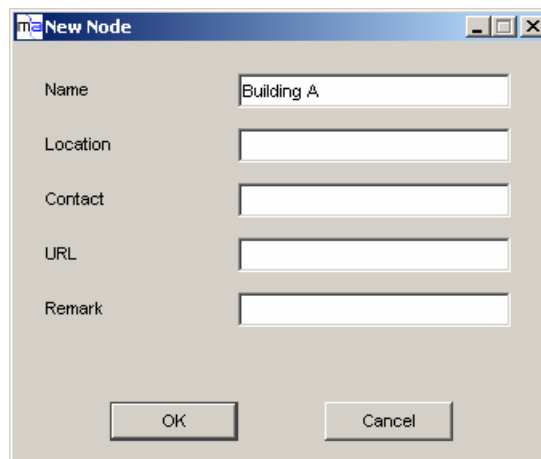

Figure 5-5: NMS Client - New Node
2. In the invoked New Node pane insert the node details and click OK. Refer to **Figure 5-5**.